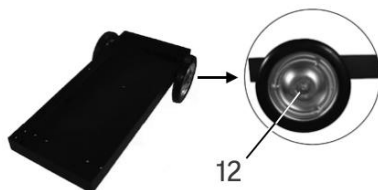

Fig. 1
3. Insert one of the cotter pins (#12) to secure the wheel in place (Fig. 1).